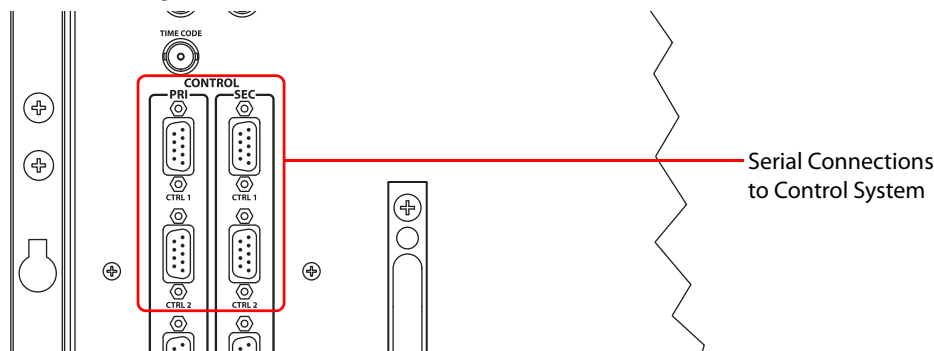

Fig. 4-6: Serial connections to the router control system (Rear View)
- 1 Face the rear of the router frame. The serial connectors are in the 'Control' connector group, as shown in Figure 4-6.